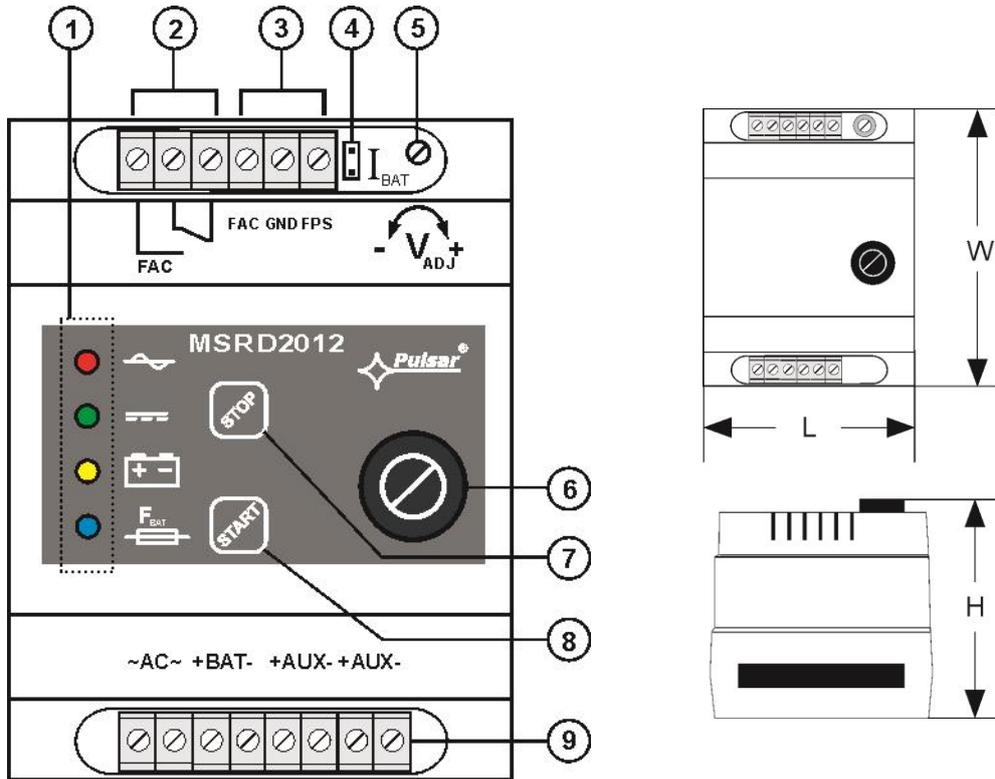

Fig. 2. The view of the PSU module
1.3. Description of components and connectors (Fig.2, tab.1)
[2]	FAC - technical output for no AC network - relay type Caution! In Fig.2. the set of contacts indicates potential-free status which corresponds to AC power outage (AC power failure).
Technical outputs: - FAC; output indicating failure of AC power supply	- R – relay type, 1A@ 30VDC/50VAC max. CAUTION! In Fig.2. the set of contacts indicates potential-free
CAUTION! In Fig.2. the contact set in the potential-free status corresponds to a state with no AC power (AC power failure).